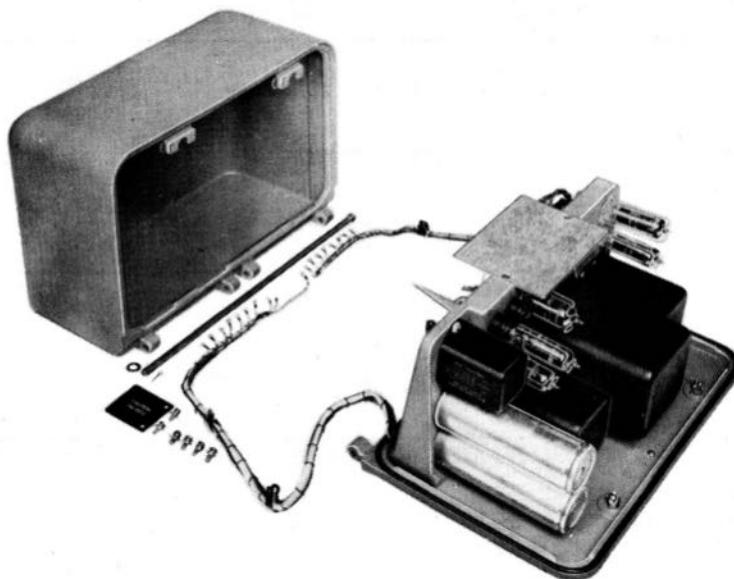

Figure 3-2. Amplifier Removed from Case
5. Remove the unit from the case. See Figure 3-2.